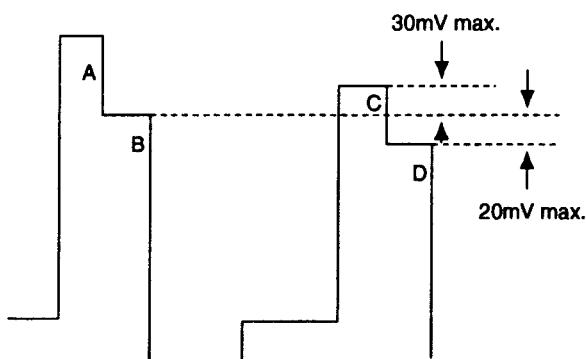

Fig. 5-13
3. Connect the probe of an oscilloscope to IC404 ⑪ PIN or TP401.
5. Adjust [R-Y LEVEL COMPONENT] so that the peaks of waveforms will be flush with each other as shown in Fig.5-13.